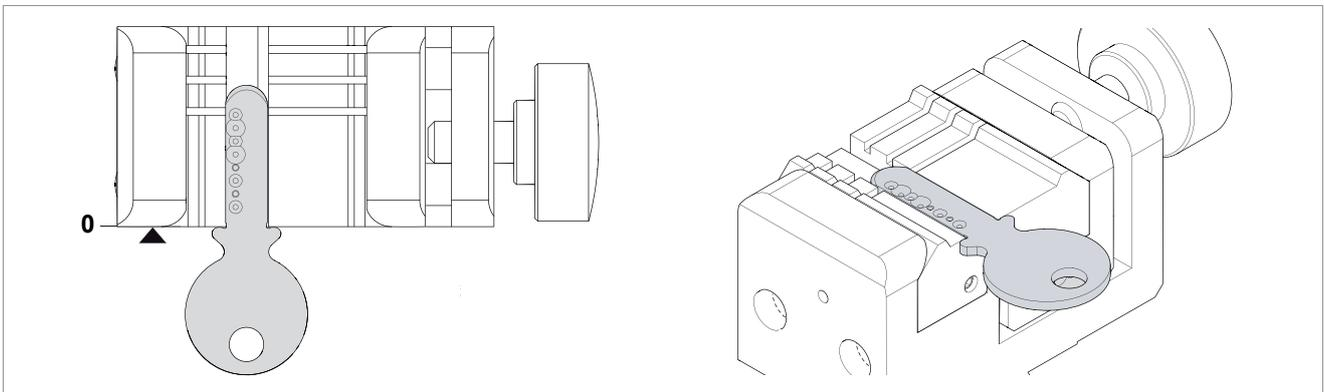
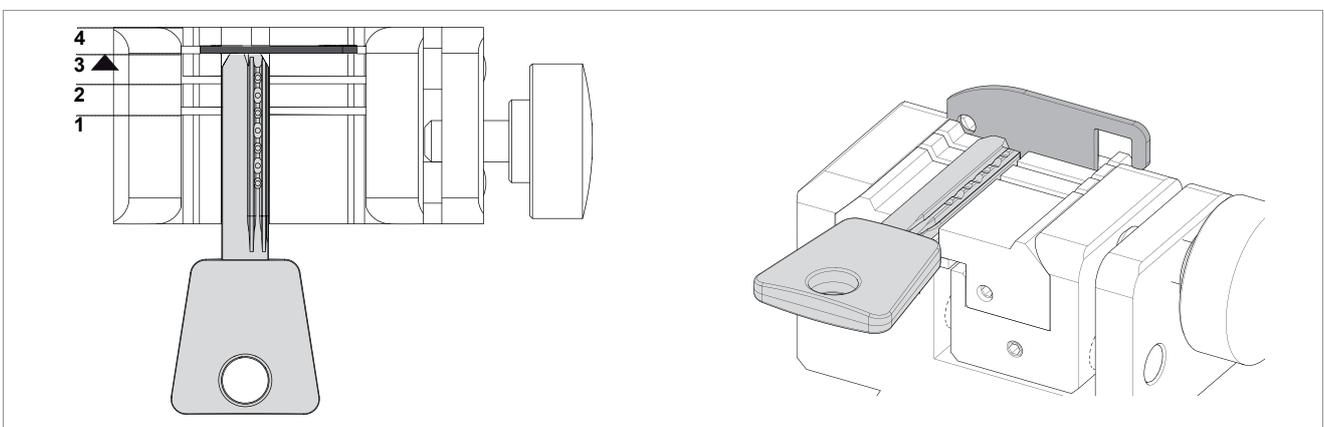

Fig. 24 - SHOULDER STOP
Fig. 25 - TIP STOP
- clamp stop (Fig. 24 and Fig. 25)
For shoulder stop keys, place the shoulder of the key against the jaws (stop "0") (Fig. 24) and the others (tip stop) must be placed against one of the grooves (1-2-3-4), as indicated in the Silca tablet program. For this operation use the bar provided (Fig. 25).